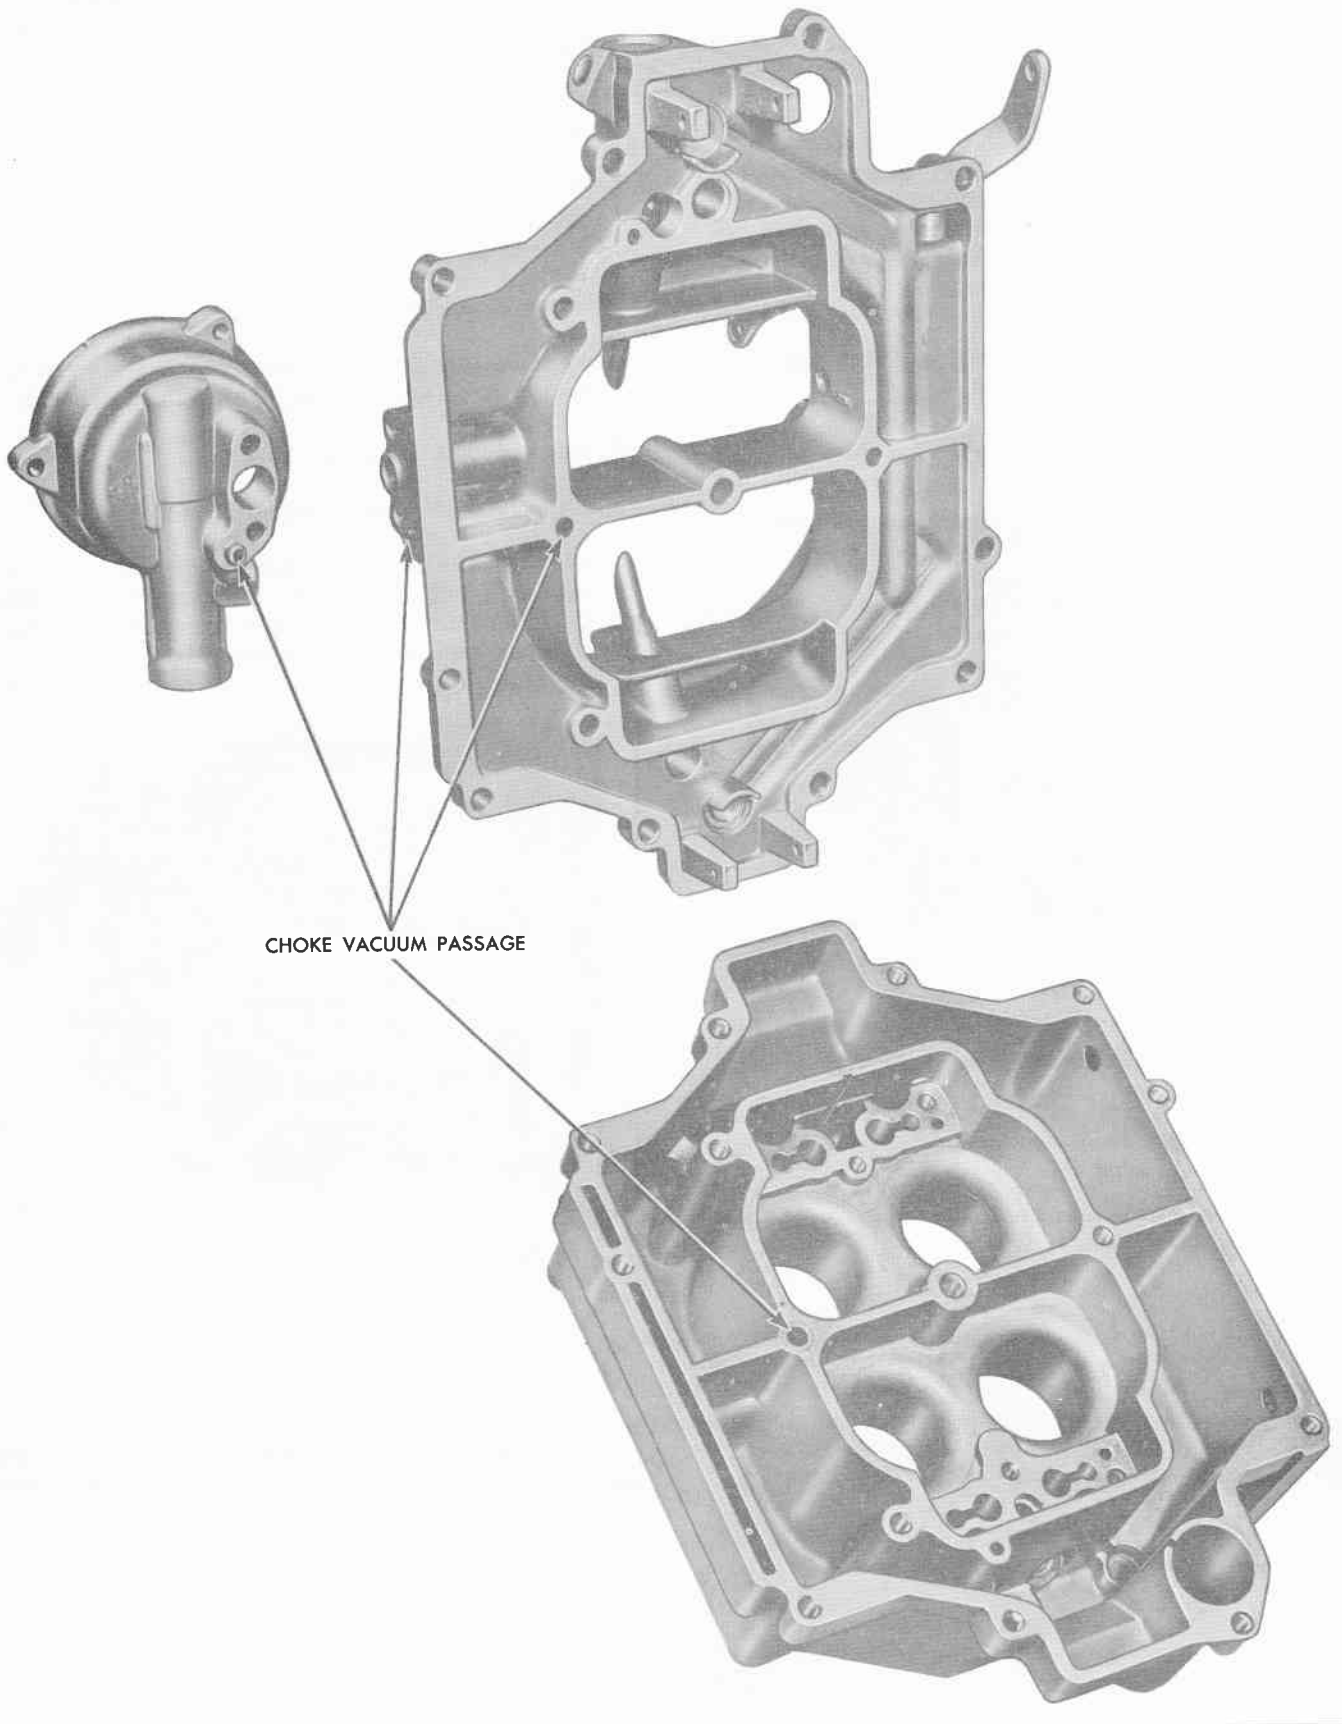

Fig. 16 Passage Identification (Body-Air Horn-Choke Housing)
2. Blow out all passages (Figs. 16 thru 20) in casting with compressed air and blow off all parts so they are free of cleaner (be sure to follow instructions furnished with cleaning solution). **CAUTION:** Do not use drills or wire to clean out jets or ports as this may enlarge the opening and affect carburetor operation.